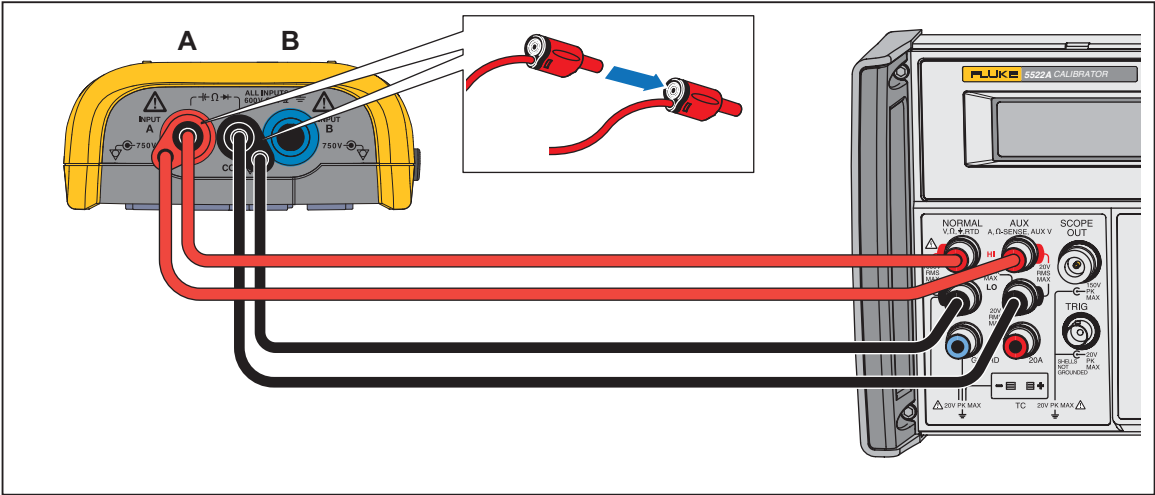

Figure 9. Test Tool Input A to Calibrator Normal Output 4-Wire
- 1. Connect the Test Tool to the Calibrator. See Figure 9.
1. Connect the Test Tool to the Calibrator. See Figure 9.